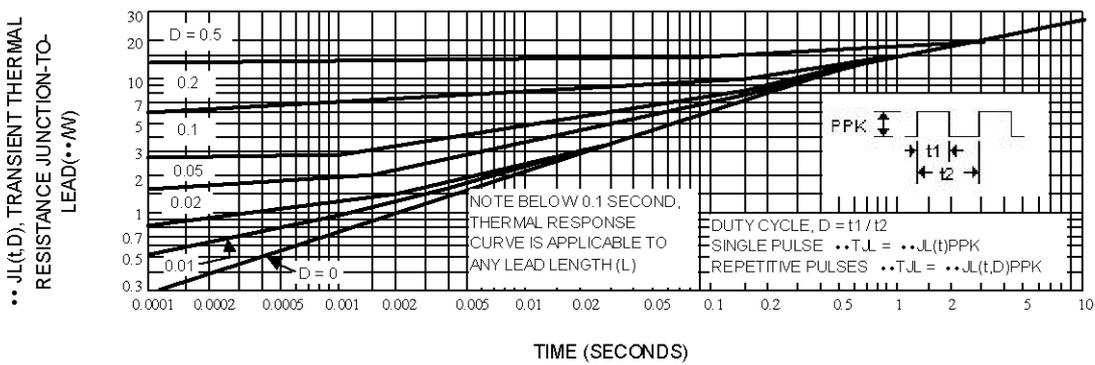
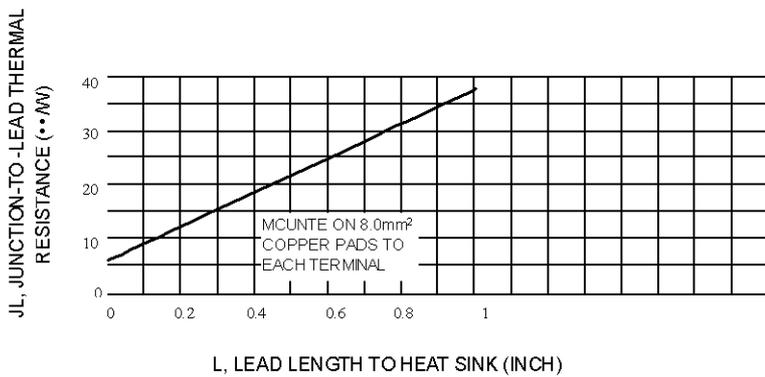
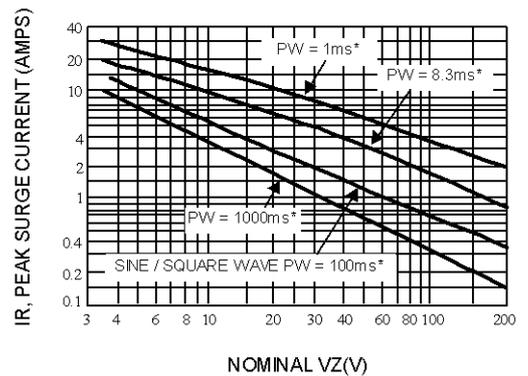
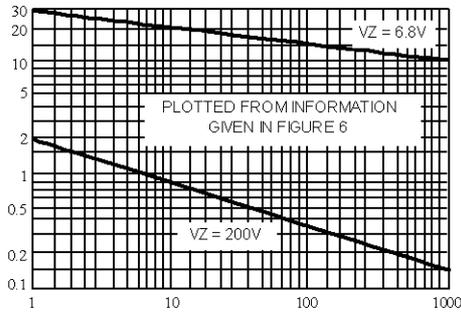

Fig. 3-TYPICAL THERMAL RESPONSE
Fig. 4-TYPICAL THERMAL RESISTANCE
Fig. 5-MAXIMUM NON-REPETITIVE SURGE CURRENT VERSUS NOMINAL ZENER VOLTAGE (SEE NOTE 3)
Fig. 6-PEAK SURGE CURRENT VERSUS PULSE WIDTH(SEE NOTE 3)
3. SURGE CURRENT (I_r) - Surge current is specified as the maximum allowable peak, non-recurrent square-wave current with a pulse width, PW, of 8.3 ms. The data given in Figure 5 may be used to find the maximum surge current for a square wave of any pulse width between 1 ms and 1000ms by plotting the applicable points on logarithmic paper. Examples of this, using the 6.8v and 200V zeners, are shown in Figure 6. Mounting contact located as specified in Note 3. ($T_A=25 \dots$).
$\dots \theta_{JL}$ is the increase in junction temperature above the lead temperature and may be found from Figure 3 for a train of power pulses or from Figure 4 for dc power.
Data of Figure 3 should not be used to compute surge capability. Surge limitations are given in Figure 5. They are lower than would be expected by considering only junction temperature, as current crowding effects cause temperatures to be extremely high in small spots resulting in device degradation should the limits of Figure. 5 be exceeded.
*** Data of Figure 3 should not be used to compute surge capability. Surge limitations are given in Figure 5. They are lower than would be expected by considering only junction temperature, as current crowding effects cause temperatures to be extremely high in small spots resulting in device degradation should the limits of Figure. 5 be exceeded